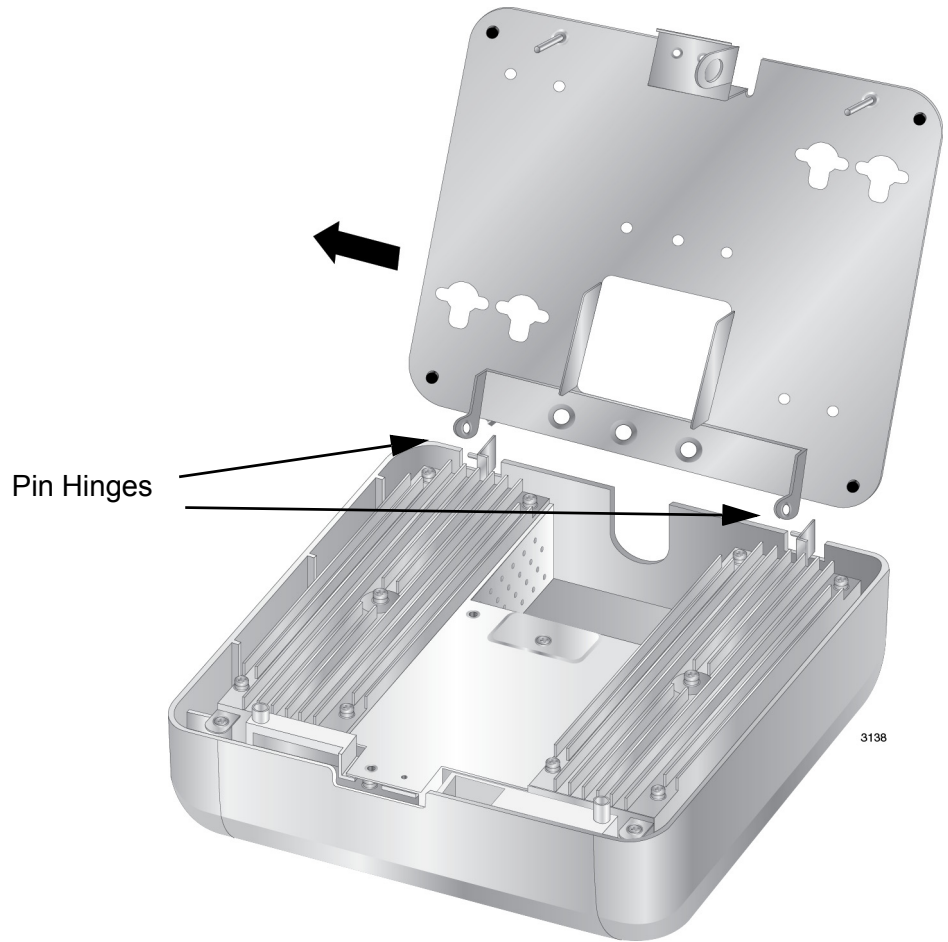

Figure 16. Removing the Bottom Panel from the Wireless Access Point
6. Slide the bottom panel slightly to the left to free it from the pin hinges on the access point, and lift the panel off the access point. Refer to Figure 16 on page 40.